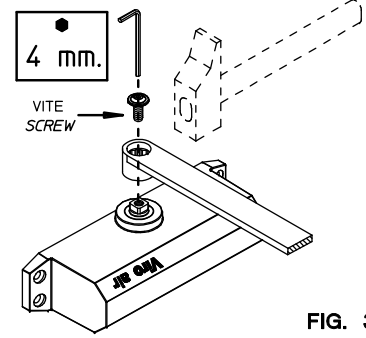

FIG. 3
2. ACCOPIARE IL BRACCIO AL PERNO COME INDICATO IN FIG.3 E FISSARE LE DUE PARTI UTILIZZANDO LA RONDELLA E LA VITE IN DOTAZIONE. NB: IL PRECISO ACCOPIAMENTO FRA IL PERNO DEL CHIUDIORTA ED IL BRACCIO PUO' RICHIEDERE L'USO DI UN MARTELLO.
2. ASSEMBLE ARM AND BODY AS SHOWN ON FIG.3 AND FIX THE TWO PARTS TOGETHER USING WASHER AND SCREW SUPPLIED WITH THE DOORCLOSER.
2. ACCOPIARE IL BRACCIO AL PERNO COME INDICATO IN FIG.3 E FISSARE LE DUE PARTI UTILIZZANDO LA RONDELLA E LA VITE IN DOTAZIONE. **N.B. IL PRECISO ACCOPIAMENTO FRA IL PERNO DEL CHIUDIORTA ED IL BRACCIO PUO' RICHIEDERE L'USO DI UN MARTELLO.**
2. ASSEMBLE ARM AND BODY AS SHOWN IN FIG.3 AND FIX THE TWO PARTS TOGETHER USING WASHER AND SCREW SUPPLIED WITH THE DOORCLOSER.